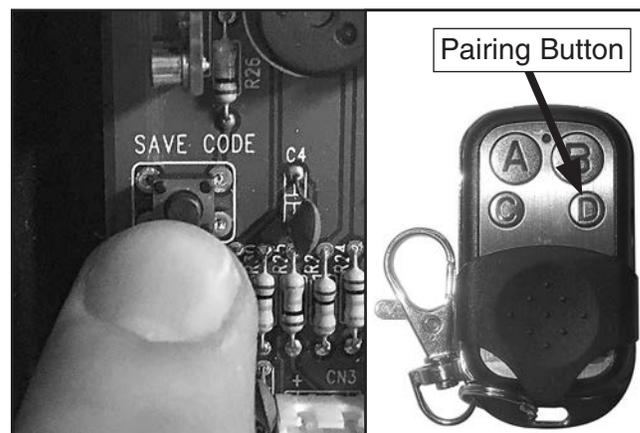

Figure 78. Controls for pairing remote control.
2. Press and hold SAVE CODE button until it beeps, then press and hold button D on remote control (see **Figure 78**).